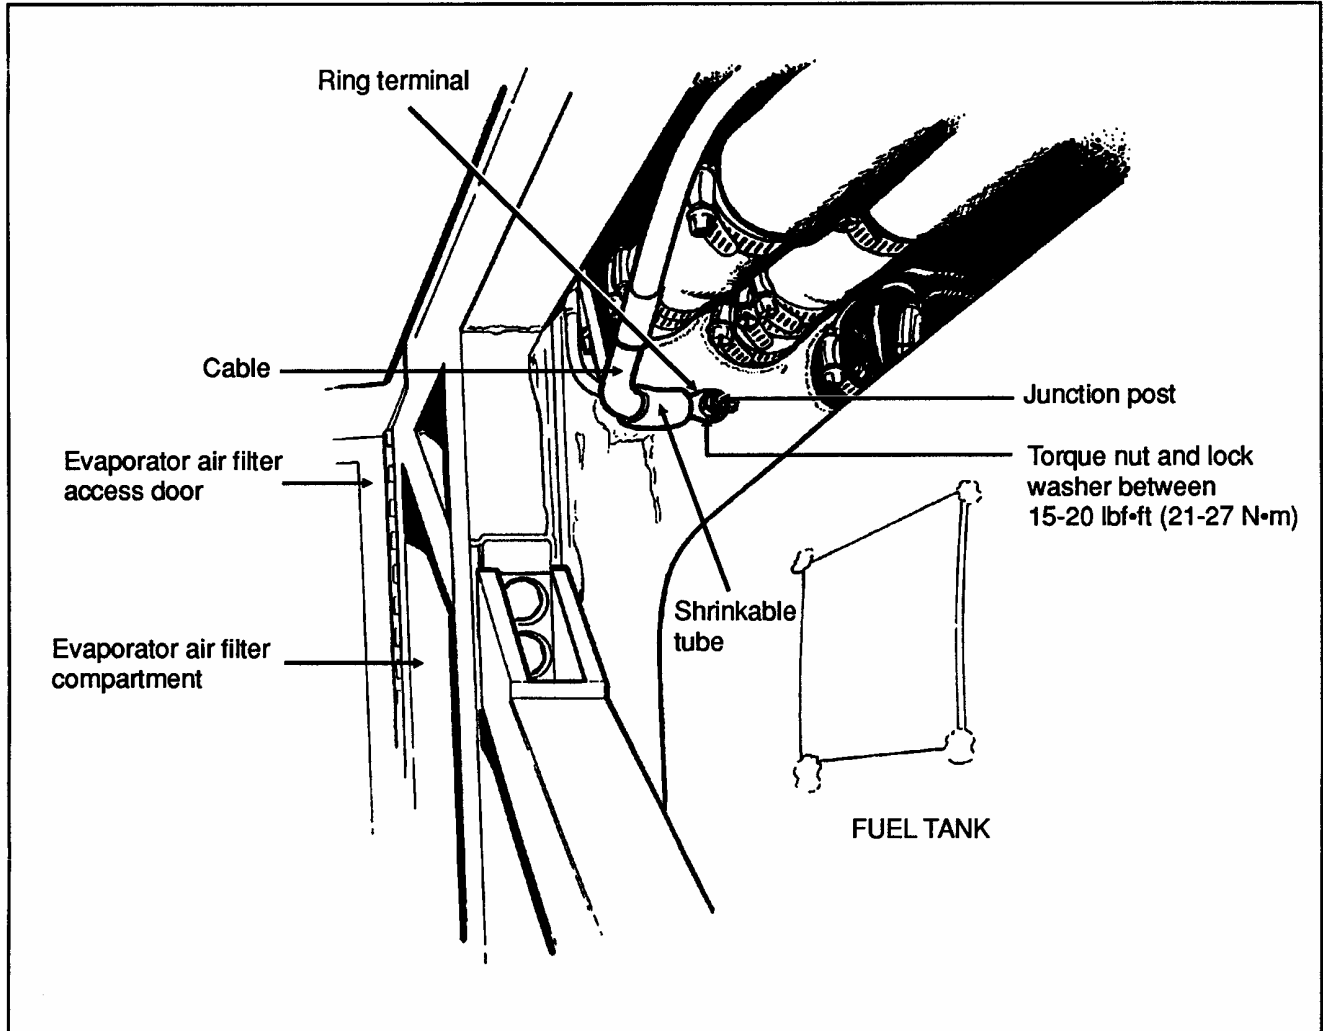

Figure 1
4. Remove nut and lock washer retaining the evaporator motor cable to junction post. See figure 1.